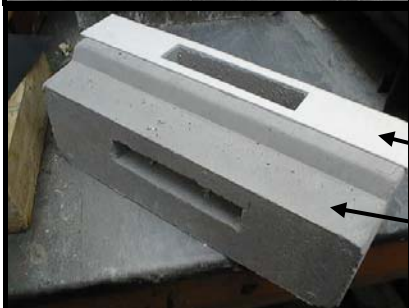

Fig. 3,4
11. Fix the gasket with the rectangular hole with silicone or glue on the side of the intake brick facing the boiler's air box. See Fig. 3,4.